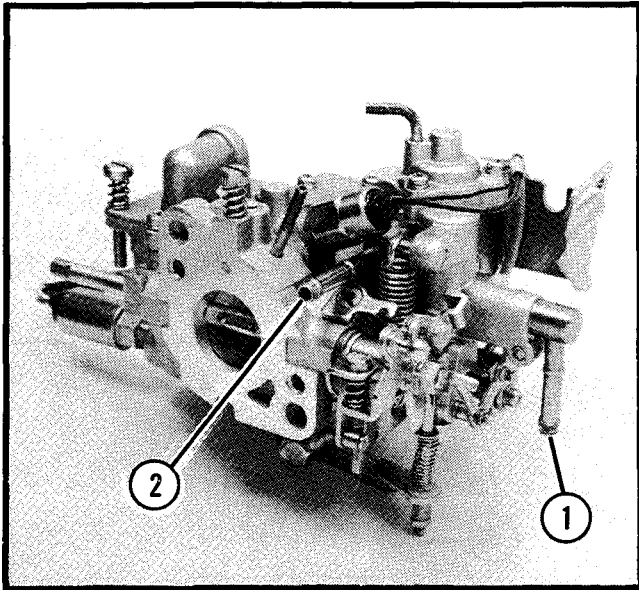

Figure 17.
- Care must be used in cleaning the carburetor. Plug the water inlet and outlet to prevent the cleaning solution from entering the carburetor and damaging the automatic choke. See Figure 17.